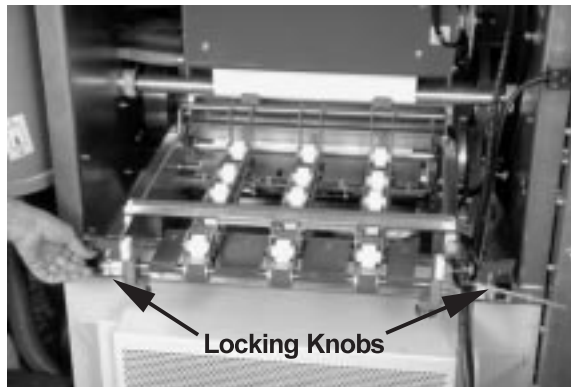

Figure 326. Cutter Assembly Black Knobs
- 31 While holding the paper straight, move the cutter back into place and replace the two black locking knobs, as shown in Figure 326.